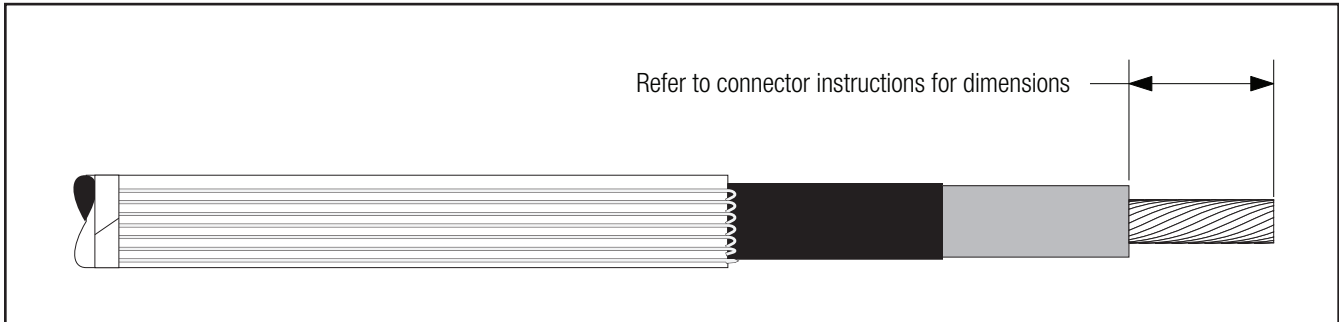

Figure 8
- 3.1** If using a 3M™ Shearbolt Connector QCI 500-1000, refer to the instructions included with the connector for insulation cut-back dimension. Insulation removal length shall not exceed 3 3/4" (95 mm) from conductor end (Figure 8).